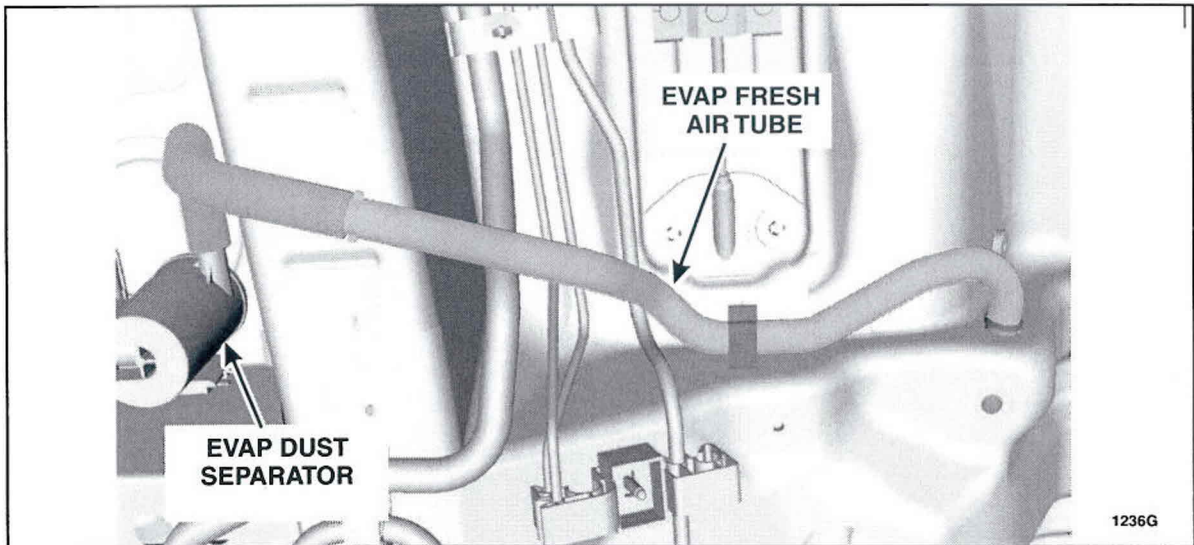

FIGURE 5
10. Disconnect the EVAP fresh air tube from the EVAP dust separator and position aside. See Figure 5.
6. Reposition and connect the EVAP fresh air tube to the EVAP dust separator. See Figure 5.